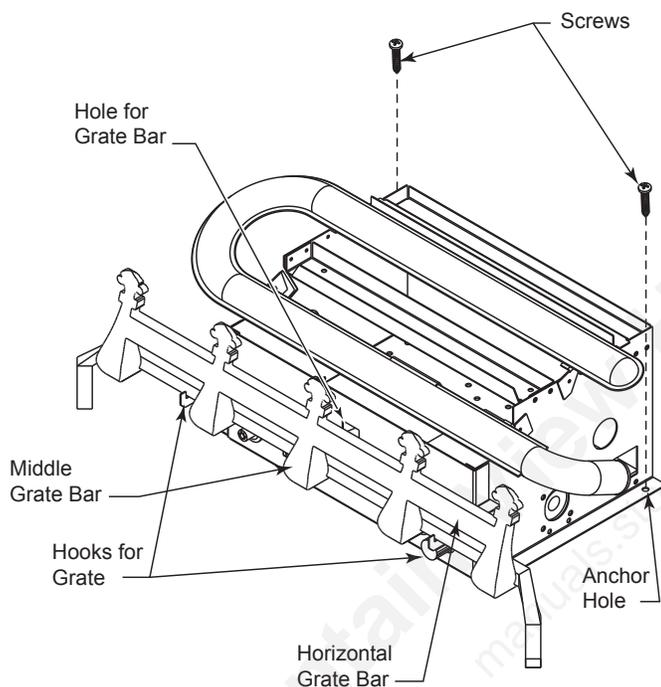

Figure 11 -
2. Install Grate: Insert longest middle grate bar in one of the two square holes in control panel. *Figure 11*. Be sure grate is centered. Sit horizontal bar inside two hooks on front of control panel. *Figure 11*. Make certain front feet of grate are located inside front edge of fireplace or firebox.
3. Anchor holes are located on the flange of the unit. *Figure 11*. After centering the burner correctly, mark the hole positions on the fireplace/firebox floor. Drill two (2) 5/32" diameter holes approximately 1½" deep.